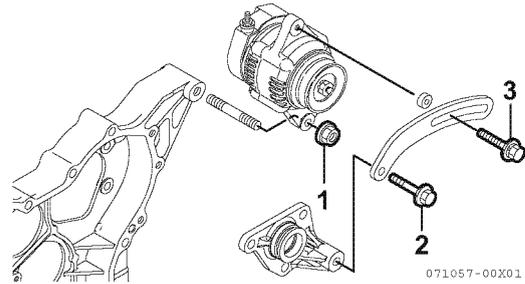

Figure 12-20
- 1- Insert the stud bolt of the gear case to the alternator, and temporarily tighten the alternator mounting nut (1, Figure 12-20).
- 2- With the belt adjuster mounting bolt (2, Figure 12-20) temporarily tightened, temporarily tighten the V-belt adjuster bolt (3, Figure 12-20) to the alternator.